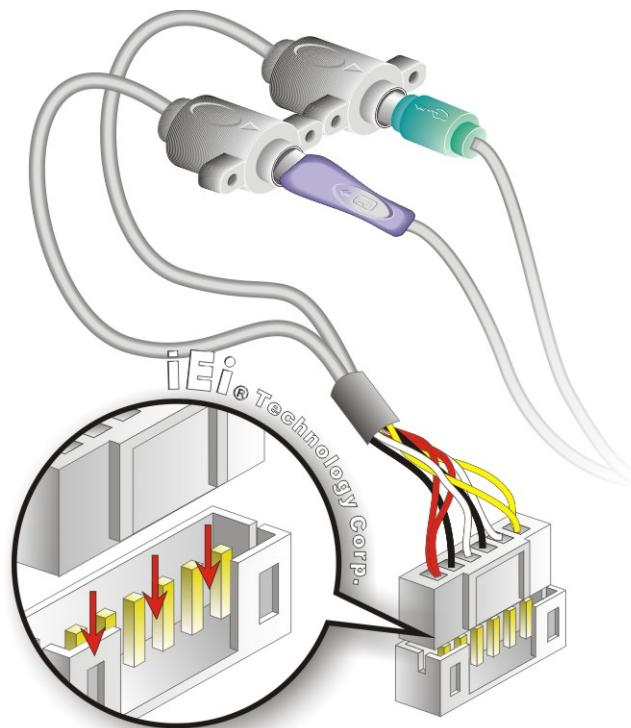

Figure 5-10: Keyboard/mouse Y-cable Connection
Step 2: Align the connectors. Correctly align pin 1 on the cable connector with pin 1 on the WAFER-LX3 keyboard/mouse connector. See Figure 5-10.
Step 3: Insert the cable connectors Once the cable connector is properly aligned with the keyboard/mouse connector on the WAFER-LX3, connect the cable connector to the onboard connectors. See Figure 5-10.